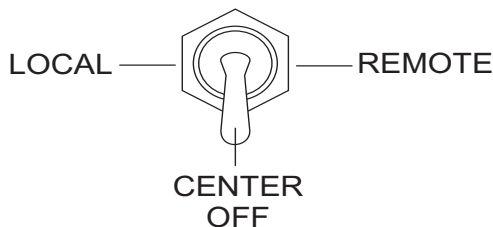

Figure 21. Pumping Control Switch (OFF)
3. Place the **Pumping Control Switch** to the **CENTER OFF** position (Figure 21) for starting operation.